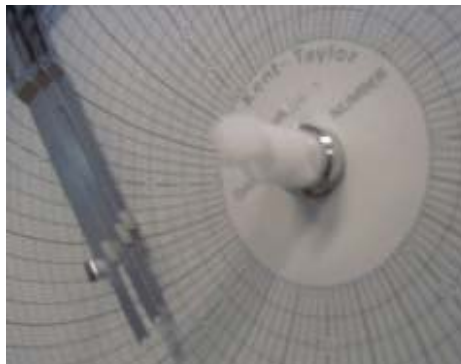

Figure 4. Chart Clamp
7. Lower the chart clamp and press down firmly to ensure that the 2 locating pins pierce the paper (See Figure 4).